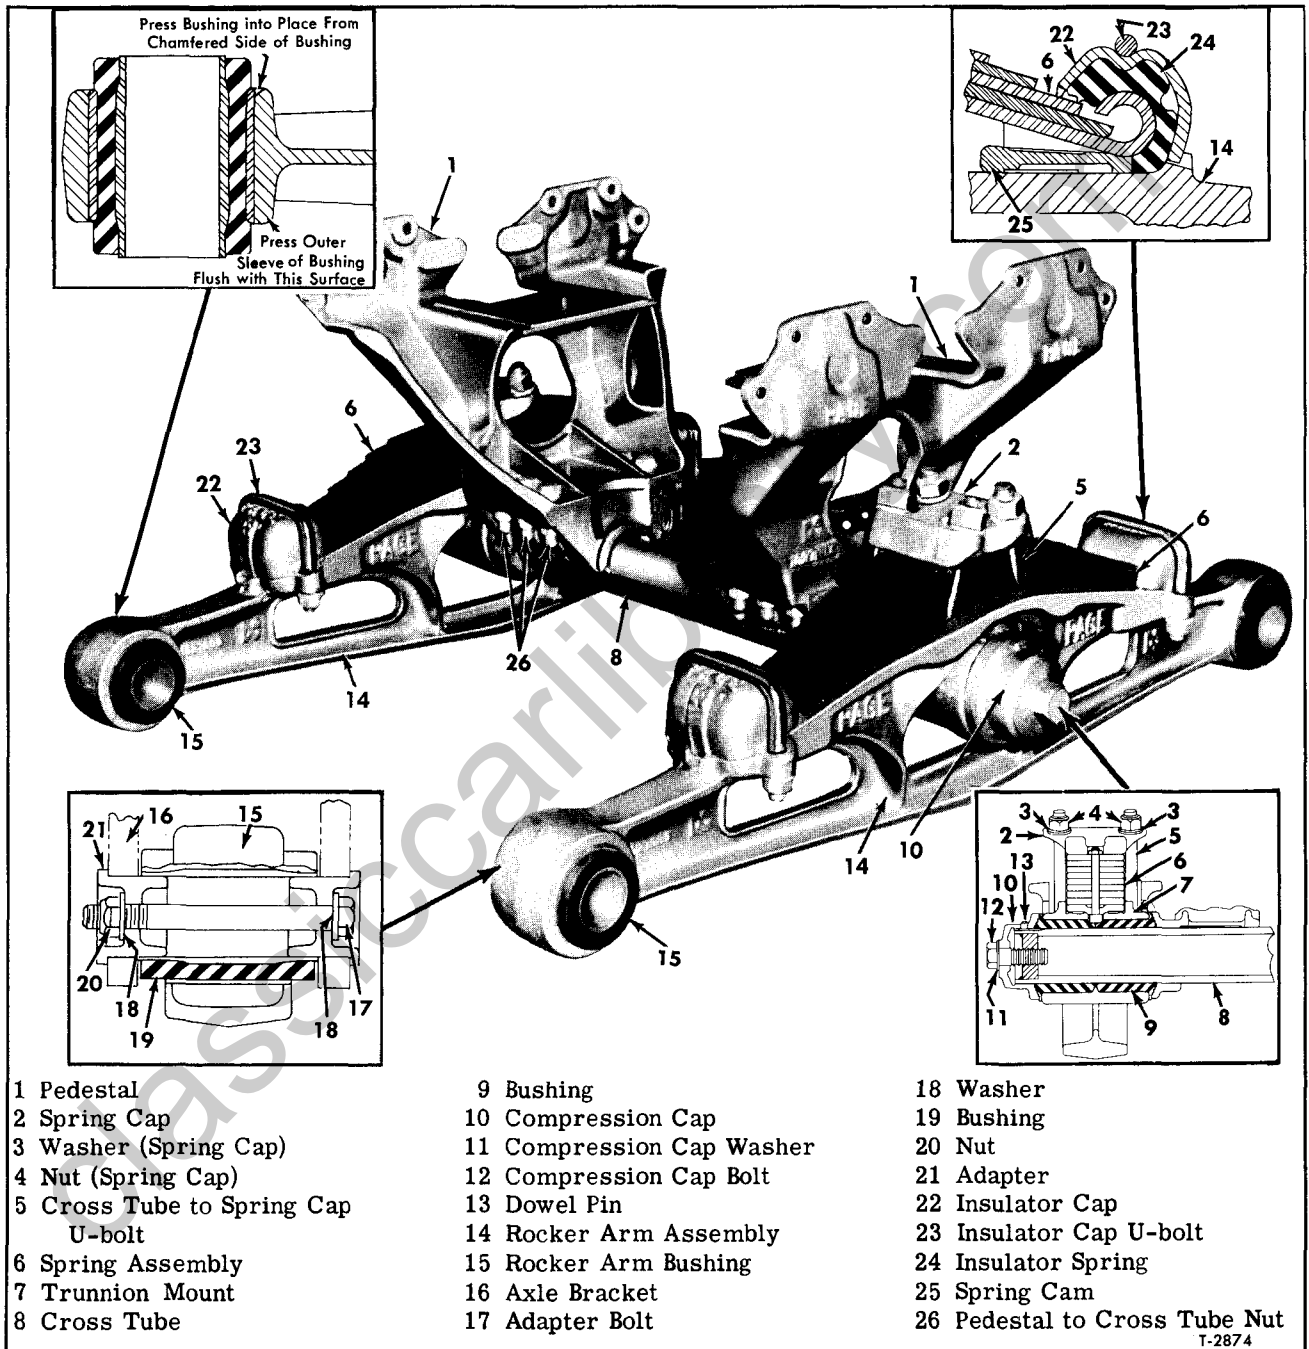

Figure 19—Page and Page (LWH) Rear Suspension Removed (Typical)
3. Remove nuts from insulator cap to rocker arm U-bolts, then remove insulator cap and insulator (inset, fig. 19).
ROCKER ARM REMOVAL (Fig. 19)
ROCKER ARM INSPECTION (Fig. 19)
2. Inspect cross tube bushings (Inset, fig. 19) for evidence of damage or deterioration of rubber. If damage is evident, replace bushing as directed
CROSS TUBE CENTER BUSHING REPLACEMENT (Inset, Fig. 19)
ROCKER ARM INSTALLATION (Fig. 19)